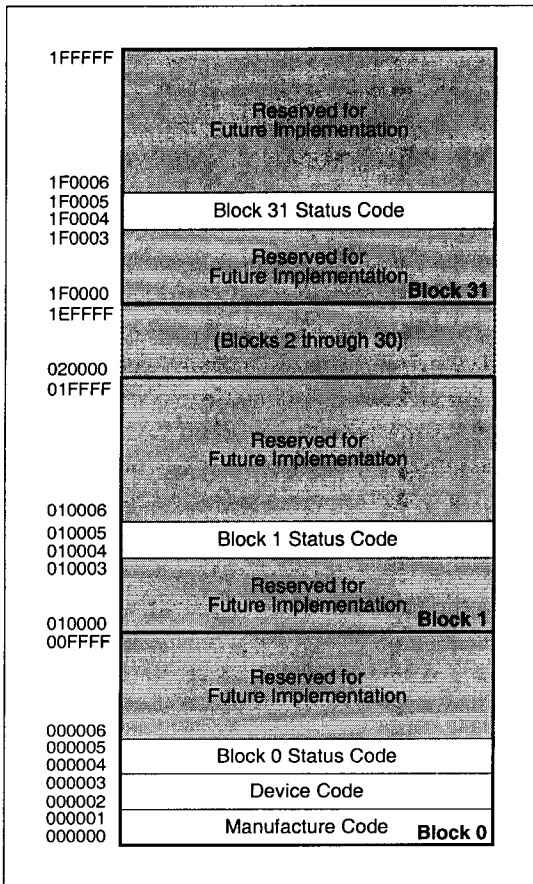

Fig. 2 Device Identifier Code Memory Map
The read identifier codes operation outputs the manufacture code, device code, block status codes for each block (see Fig. 2). Using the manufacture and device codes, the system CPU can automatically match the device with its proper algorithms. The block status codes identify locked or unlocked block setting and erase completed or erase uncompleted condition.
IA = Identifier code address : see Fig. 2.
The identifier code operation is initiated by writing the Read Identifier Codes command. Following the command write, read cycles from addresses shown in **Fig. 2** retrieve the manufacture, device, block lock configuration and block erase status (see **Table 4** for identifier code values). To terminate the operation, write another valid command. Like the Read Array command, the Read Identifier Codes command functions independently of the VPP voltage and RP# must be VIH. Following the Read Identifier Codes command, the following information can be read :
1. X selects the specific block status code to be read. See **Fig. 2** for the device identifier code memory map.